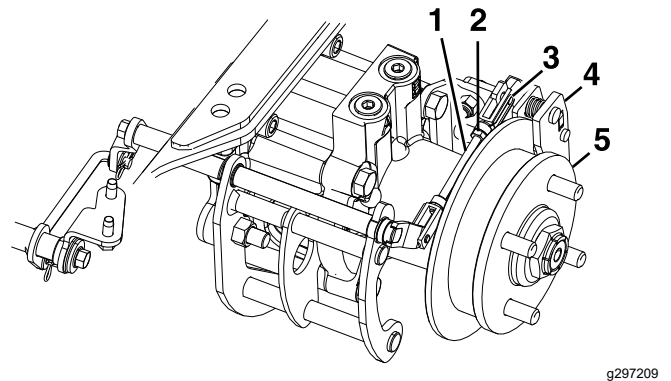

Figure 72
8. Remove the spring clevis pin from the rear linkage and caliper (Figure 72).
12. Tighten the jam nut on the rear linkage (Figure 72).